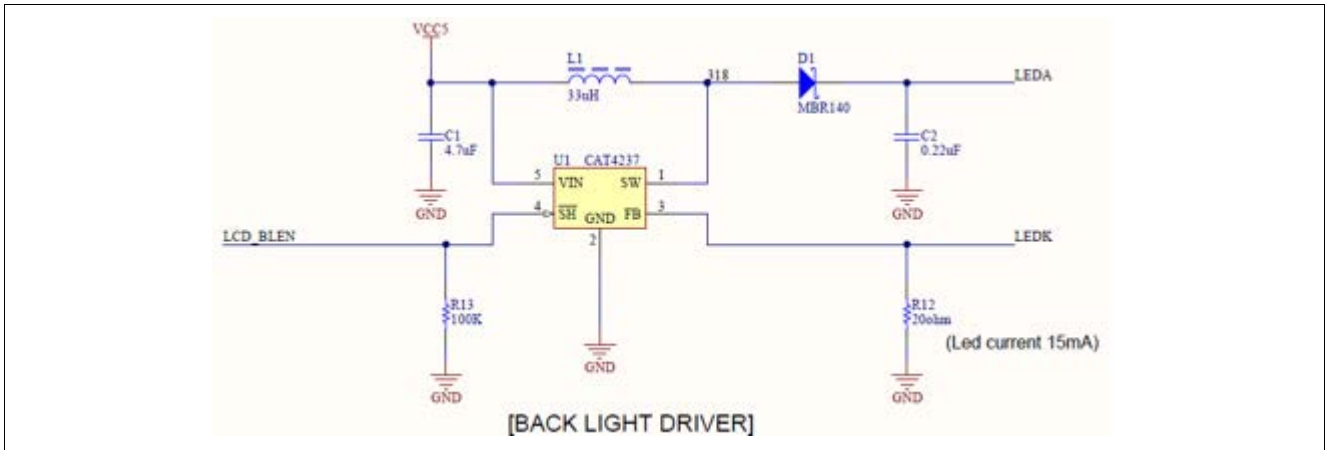

Figure 27. LCD_BLEN Schematic
20. Figure 27 is a schematic of the LCD_BLEN signal.